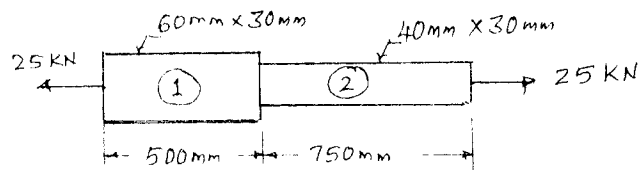

Fig Q1(b)
b. The stepped bar shown in Fig Q1(b) is subjected to a pull of 25 kN. The bar is made up of two different materials having Young's Modulus $E_1 = 200\text{GPa}$ and $E_2 = 100\text{GPa}$. Find the extension of the bar and stresses in each materials. **(08 Marks)**